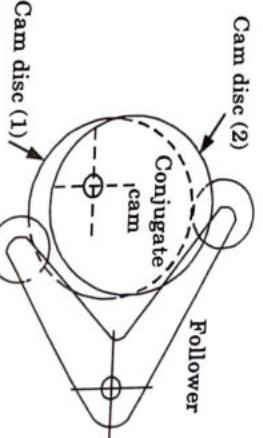

Fig. 5.14.3.
- A conjugate cam is a double-disc cam, the two discs being keyed together and are in constant touch with the two rollers of a follower (Fig. 5.14.3). Thus, the follower has positive constraint.